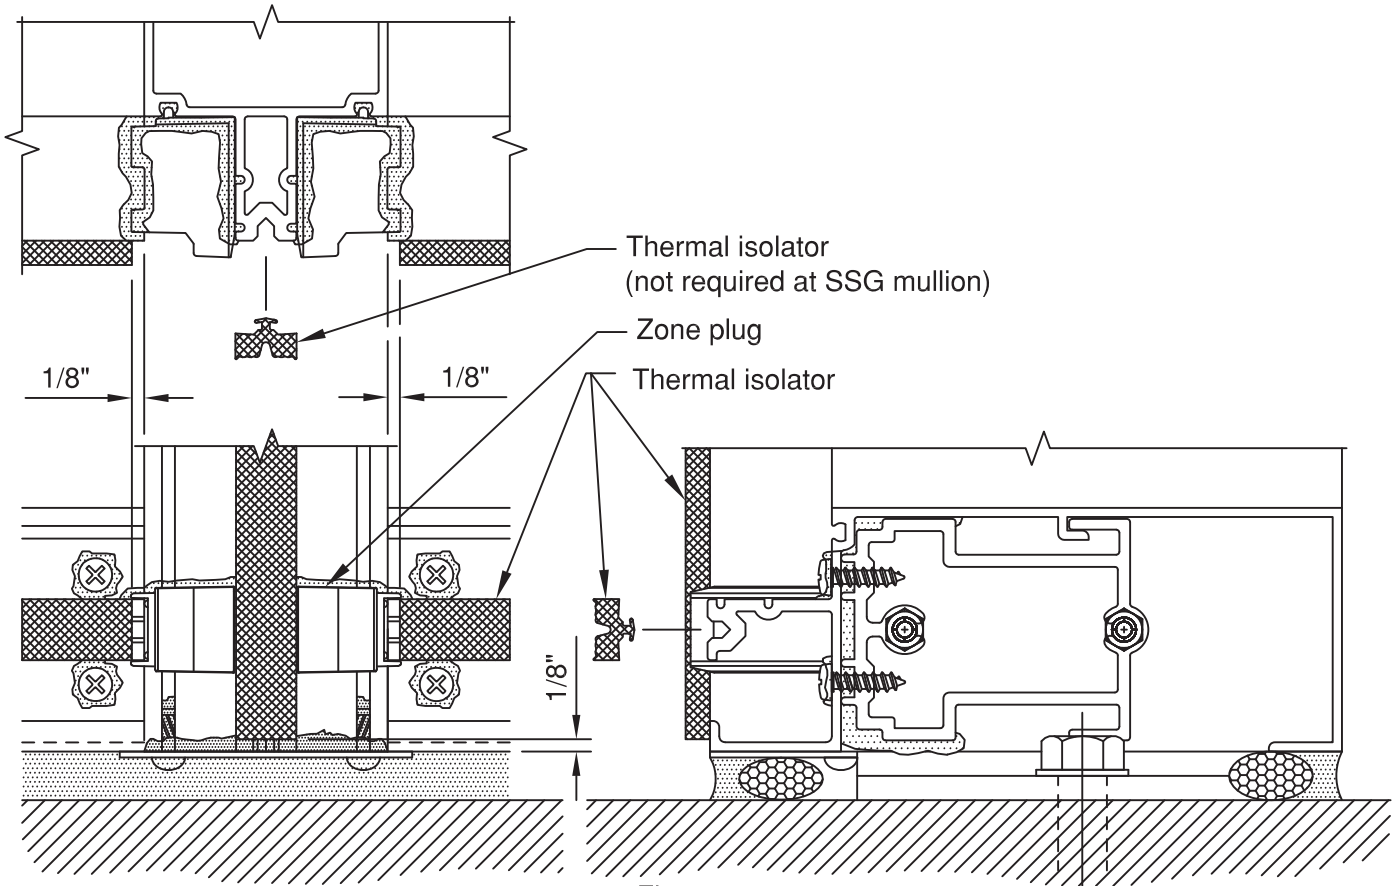

Figure 13
- 3.2 Install thermal spacer into groove on face of mullion tongues. Run through at vertical splice joints. Cut short 1/8" from each end of the mullion. **SEE FIGURE 13.**